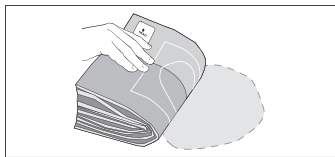

Figure 8
- Position fenestration over intended insertion site (refer to Figure 8).